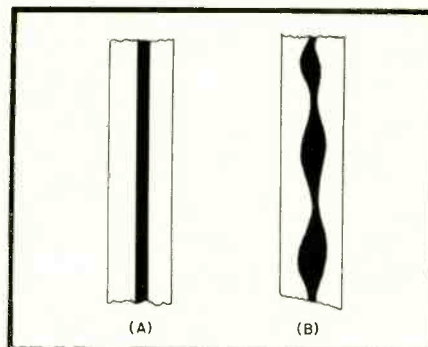

Fig. 3.
All this time the film has been passing the light slit and (A) of Fig. 3 shows how it will look after development—dark at the center where the light has struck. The deflection rate is so high with respect to the film travel speed that the line appears solid. Keep in mind now that the illumination of the beam goes out only when the grid of either V_3 or V_4 goes positive by a certain amount or more.
The converse is true as well. When the audio is at a maximum positive point in the cycle, the V_3 or V_4 grid voltage is so positive that the blackout begins almost instantly when the beam departs from middle position. It is thus obvious that the instantaneous level of the audio cycle determines the width of the black area on that section of the film passing the slit at that instant. The width of the black area is exactly proportional to the instantaneous amplitude and phase of the audio cycle and a sine-wave audio signal will appear in the developed film as in (B) of Fig. 3. When the positive film is printed it will be black at the edges, with the push-pull sine-waveform at the center in white (clear) and will be a standard variable-area recording.